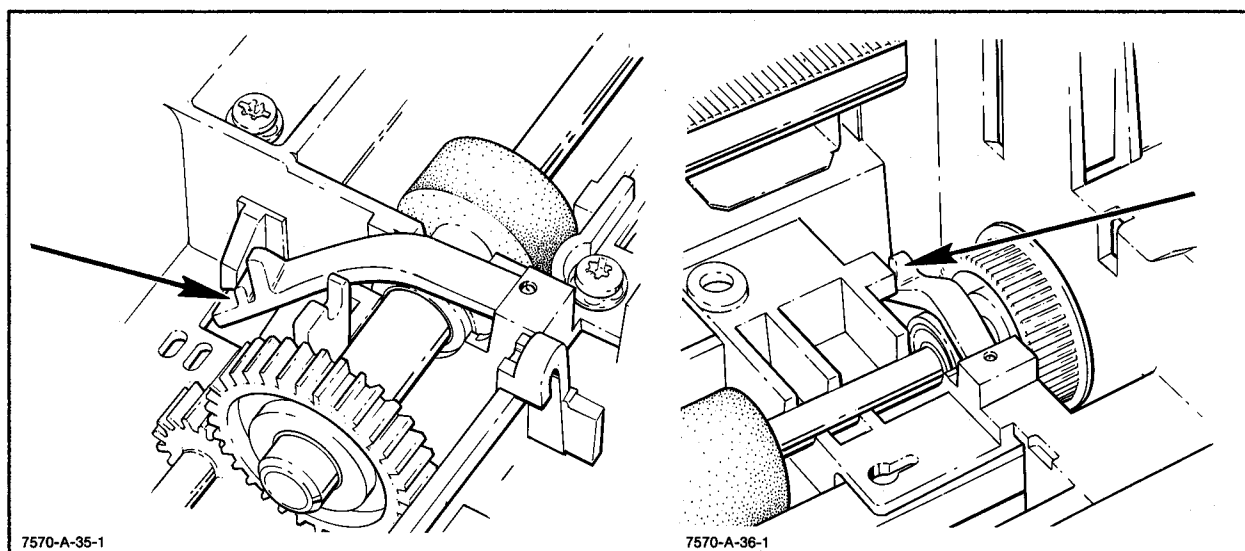

Figure 6-33. Drive Shaft Bearing Clamps
- k. Use a common screwdriver to unhook both bearing clamps from the chassis and remove them. See Figure 6-33.